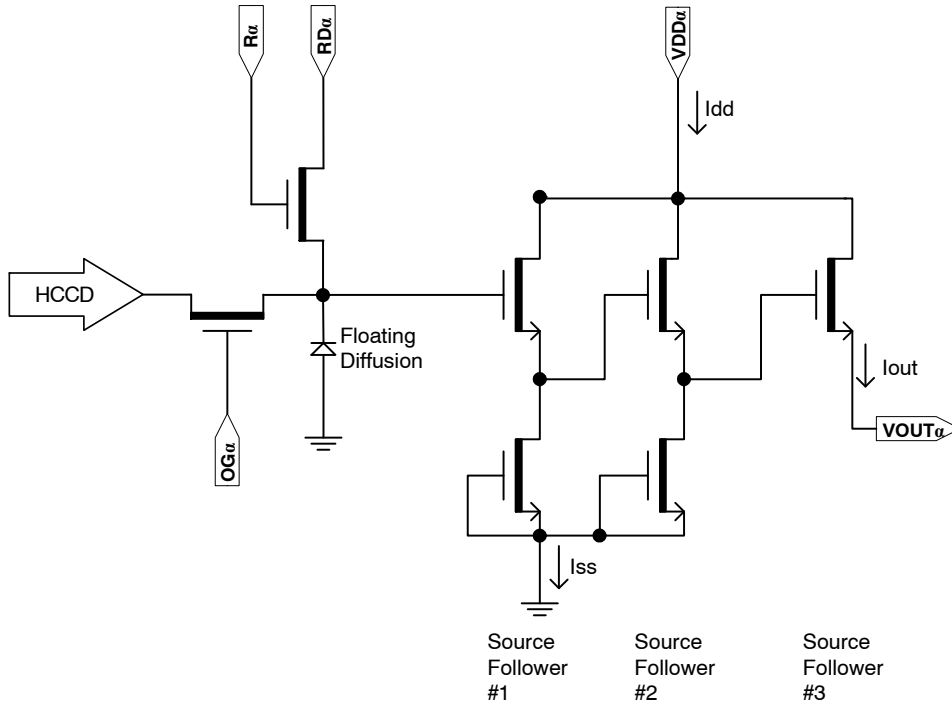

Figure 18. Output Amplifier
- The maximum DC current is for one output. I_{dd} = I_{out} + I_{ss}. See Figure 18.